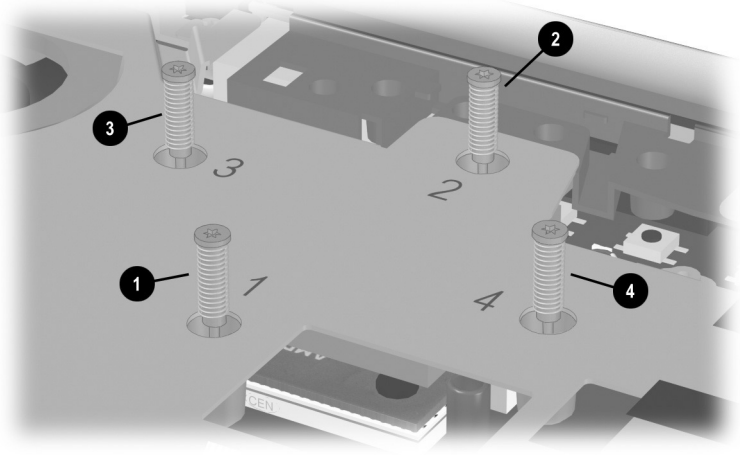

Figure 5-26. Heat Spreader Screw Sequence
The spring-loaded screws should be removed and installed in the ①, ②, ③, ④ sequence stamped into the heat spreader as illustrated in Figure 5-26.